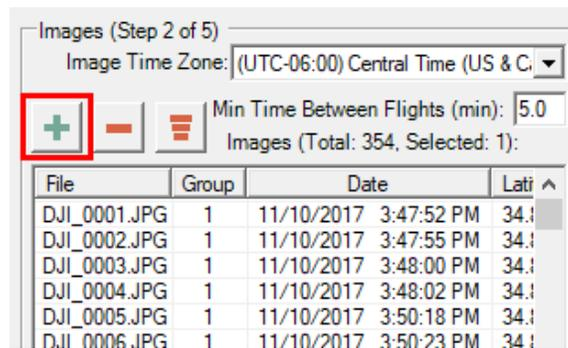

Figure 9 - Add Photos
21. Select the green plus sign (Figure 9) and navigate to the photos on the aircraft. Select all photos collected during the flight, including the ground photos. If you select photos from more than one flight you will get a notification. Use the group numbers and remove photos from other flights. ASPSuite can only work with one flight at a time.